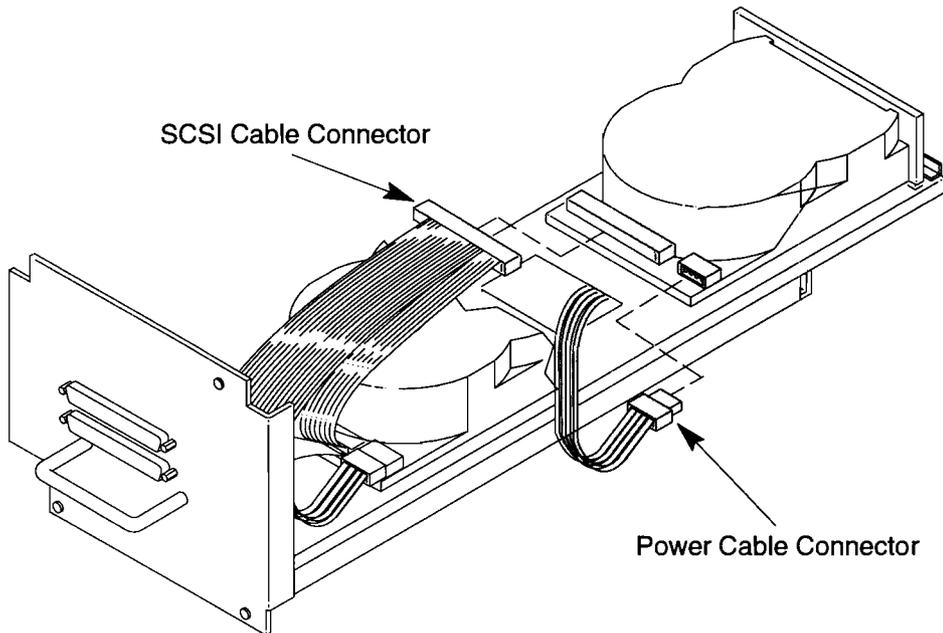

Figure B-35. Connecting Cables to the Hard Disk
2. Plug the **4-wire** power cable connector into the disk drive power connector. Line up the pins on the connectors and press firmly until you hear a click. (See Figure B-35.)
3. Plug the SCSI cable connector into the disk drive SCSI connector. Line up the pins on the connectors and press firmly until you hear a click. (See Figure B-35.)